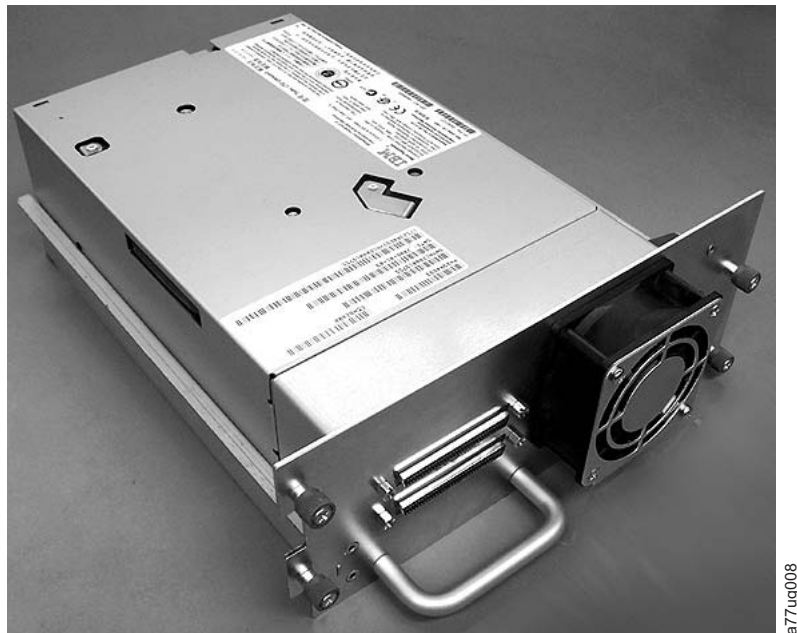

Figure 10-4. Library drive sled without ElectroStatic Discharge (ESD) springs (SCSI sled shown)
- Drive sled without ElectroStatic Discharge (ESD) springs (see Figure 10-4) ship group:
4. If you are installing a drive sled without ESD springs (see Figure 10-4 on page 10-3), apply conductive tape to the sled as shown in Figure 10-9 on page 10-8.